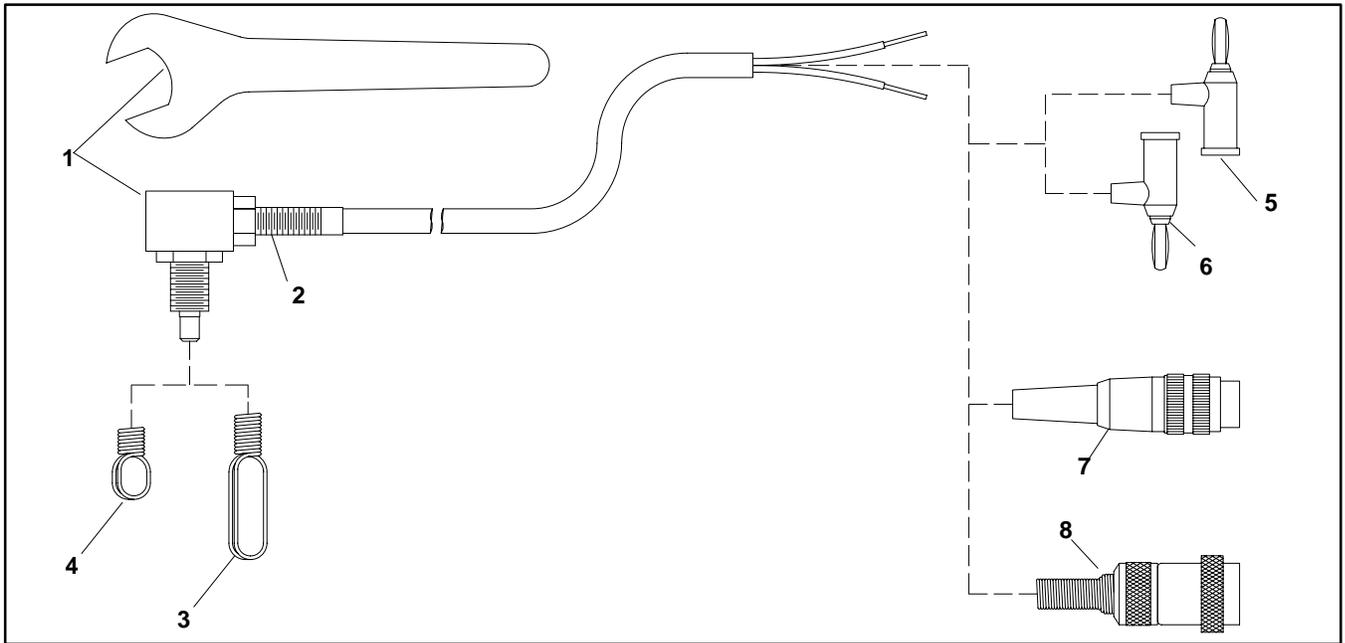
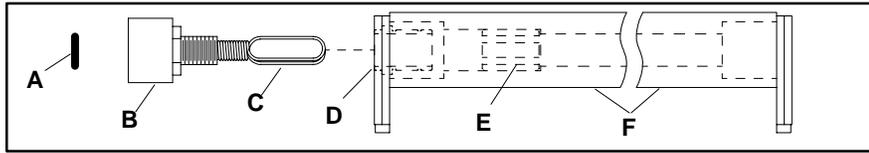

Figure 1: Components Reference Drawing (above) & Listing Table (below)
Figure 2: Installation Detail
The motion sensor switch assembly is available in any one of four (4) wire termination variations. The switch body is designed to be installed onto the idler end spindle hex broach of a 2100 or 4100 series Dorner Conveyor (Figure 2). Each assembly is shipped with the 3" (70 mm) and wider conveyor spring (Item 3 of Figure 1) installed onto the switch body shaft. The 2" (44 mm) wide conveyor spring (Item 4 of Figure 1) is furnished with a tag that directs "Do NOT Discard". As necessary, remove and replace the 3" spring with the 2" spring, before installing switch body into idler end spindle. Proceed with the installation as follows:
- 1.. Remove and discard the cap plug (A of Figure 2) from the retaining sleeve (D).
- 2.. Properly position and install the switch body (B) and spring assembly (C). Insert the Spring (C), into the hex broach (E) of spindle (F), as shown.
- 3.. With the spring (C of Figure 2) properly engaged into the hex, align the threads of the switch body (B) with the tap in the retaining sleeve (D). Using the wrench provided (G of Figure 3), thread the body into the retaining sleeve until it is snug.